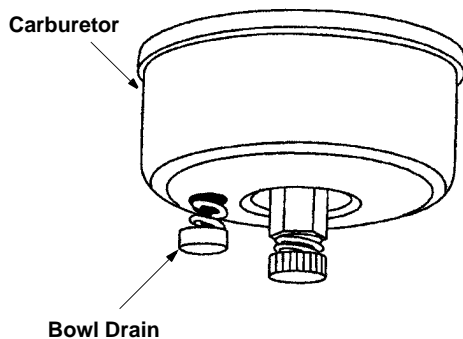

Figure 34
- Drain carburetor by pressing upward on bowl drain, located below the carburetor cover. See Figure 34.
- Remove the spark plug and pour one (1) ounce of engine oil through the spark plug hole into the cylinder. Crank the engine several times to distribute the oil. Replace spark plug.